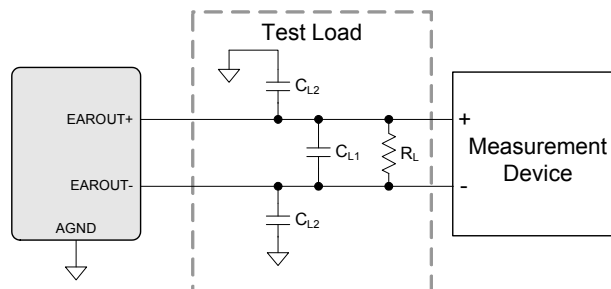
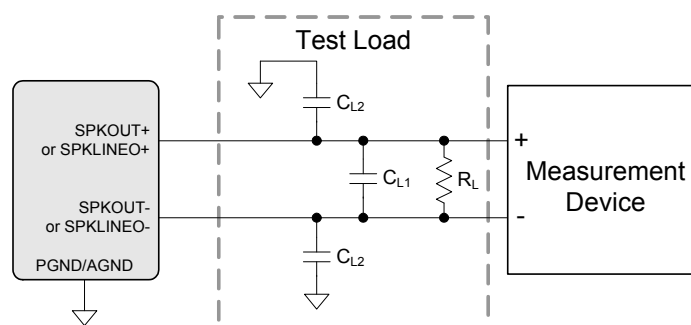

Figure 7. Ear Speaker Output Test Configuration
Figure 8. Speakerphone and Speakerphone Line Output Test Configuration
Test conditions (unless otherwise specified): Connections to the CS42L73 are shown in the “Typical Connection Diagram” on page 17; Input test signal is a 24-bit full-scale 997 Hz sine wave with 1 LSB of triangular PDF dither applied; GND = AGND = PGND = CPGND = DGND = 0 V; all voltages are with respect to ground (GND); $V_A = 1.80$ V; $T_A = +25$ °C; Measurement Bandwidth is 20 Hz to 20 kHz; $F_s = 48$ kHz (Note 10); ASP is used and is in slave mode with $F_{s_{ext}} = 48$ kHz; test loading is configured as per Figure 7 on page 30 (R_L , C_{L1} , and C_{L2} as indicated in the table below for $R_{L(Min)}$, $C_{L1(Max)}$, and $C_{L2(Max)}$); Mixer Attenuation = 0 dB, Digital Volume = -2.5 dB, Digital Mute is disabled.
41. Refer to Figure 7 on page 30 and Figure 8 on page 32 to observe Ear-Speaker, Speakerphone, and Speakerphone Line-Output test configurations.
Test conditions (unless otherwise specified): “Typical Connection Diagram” on page 17 shows CS42L73 connections; Input test signal is a 24-bit full-scale 997 Hz sine wave with 1 LSB of triangular PDF dither applied; GND = AGND = PGND = CPGND = DGND = 0 V; all voltages are with respect to ground (GND); VA = 1.80 V, VP = 3.70 V; T_A = +25 °C; Measurement Bandwidth is 20 Hz to 20 kHz; Fs = 48 kHz (Note 10); ASP is used and is in slave mode with Fs_{ext} = 48 kHz; test loading is configured as per Figure 8 on page 32 (R_L, C_{L1} (= C_{L1(Max)}) and C_{L2} (= C_{L2(Max)}) as indicated in the table below; Mixer Attenuation = 0 dB, Digital Volume = -5.5 dB, Digital Mute is disabled, SPK_LITE_LOAD = 0b and 1b for R_L = 8 Ω and 50 kΩ, respectively.
Test conditions (unless otherwise specified): Connections to the CS42L73 are shown in the “Typical Connection Diagram” on page 17; Input test signal is a 24-bit full-scale 997-Hz sine wave with 1 LSB of triangular PDF dither applied; GND = AGND = PGND = CPGND = DGND = 0 V; all voltages are with respect to ground (GND); $V_A = 1.80\text{ V}$, $V_P = 3.70\text{ V}$; $T_A = +25\text{ °C}$; Measurement Bandwidth is 20 Hz to 20 kHz; $F_s = 48\text{ kHz}$ (Note 10); ASP is used and is in slave mode with $F_{s_{ext}} = 48\text{ kHz}$; test loading is configured as per Figure 8 on page 32 (R_L , C_{L1} , and C_{L2} as indicated in the table below for $R_{L(Typ)}$, $C_{L1(Max)}$, and $C_{L2(Max)}$); Mixer Attenuation = 0 dB, Digital Mute is disabled.